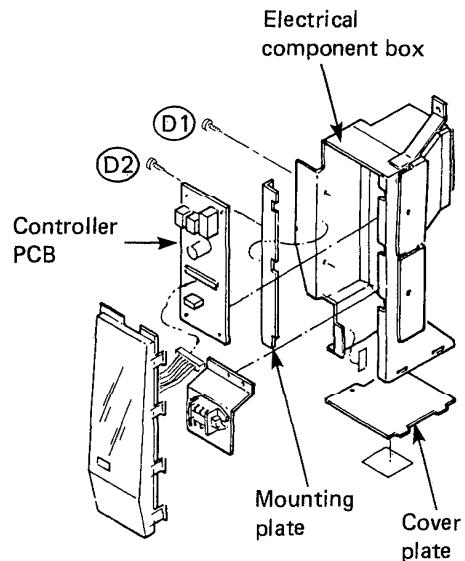

Fig. D-3
- 2) Loosen screws **(D1)** **(D2)** and remove the mounting plate. Fig. D-3.